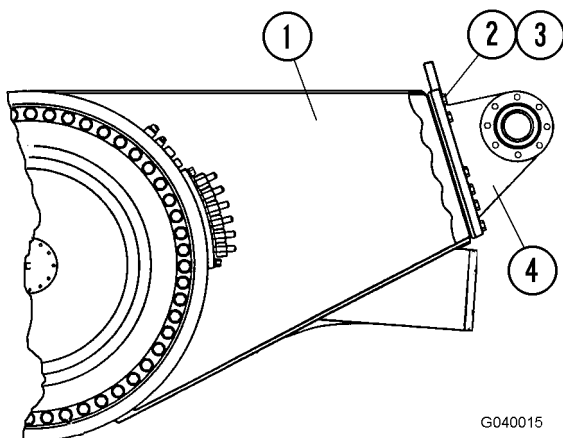

FIGURE 4-3. PIVOT EYE ATTACHMENT
If damage occurs to the pivot eye (4, Figure 4-3), it may be necessary to remove it from the rear axle structure (1) to facilitate repair and bearing replacement.
1. Be certain mating surfaces of axle housing (1, Figure 4-3), and pivot eye (4) are clean and not damaged.
2. Lift pivot eye into position on front of axle housing. Insert several capscrews (2) and flatwashers (3) to align the parts. Remove the lifting device.